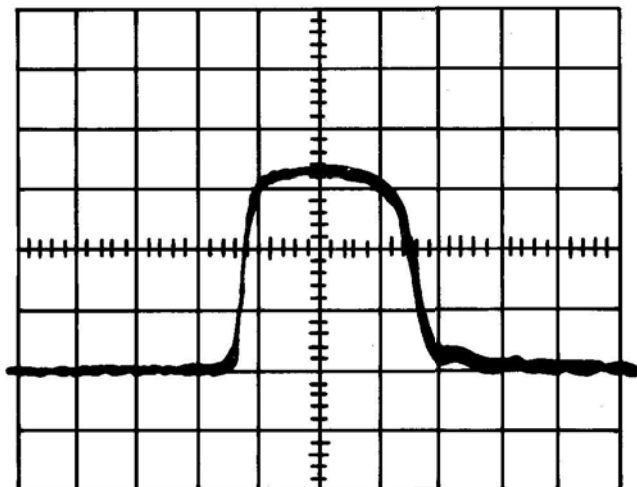

Fig. 5-30. Typical CRT display with high-speed timing adjustments preset.
i. ADJUST—R1175 and R1185 (see Fig. 5-27) for a symmetrical waveform similar to that in Fig. 5-30.